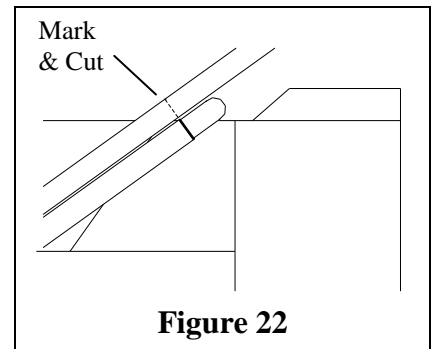

Figure 22
5. Mark the tension bow arm where it rests on the seem between the corner and the bow arm (see **Figure 22**). Remove the side arm and cut **both** of the side arms to the length marked.